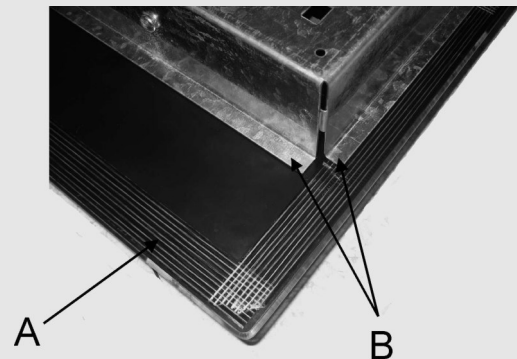

FIG. 9
Make a hole in the worktop to accommodate the hob, using the measurements indicated in fig. 9, ensuring that the critical dimensions of the space in which the appliance must be installed are observed (see fig. A).
**Caution: Do not allow the glass (A) lay directly on the work top, it is the bottomshelf "carter" (B) that has to be in touch with the work top (see fig. 9).**